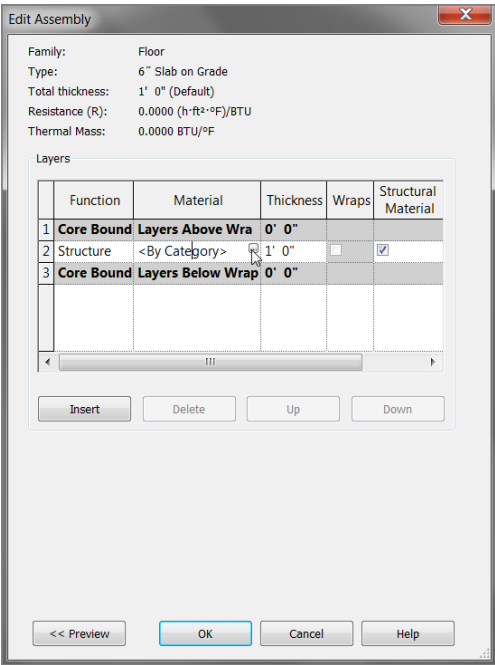

FIGURE 6.6 : By clicking in the Material cell within the Structure row, you can access the Material Browser.
- 1. The Structure row is divided into columns. Click in the Material column within the Structure row, as shown in Figure 6.6.